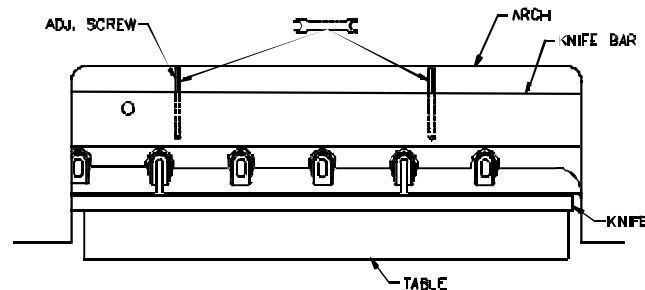

Figure 16
3. Back off the knife adjusting screws on the top of the knife bar, (Figure 16), as far as they will go (counter-clockwise). A new knife will cut deeper than a knife that has been ground several times. If the adjusters are not backed off, damage can result to the new knife and/or the cutting stick.
2. Check to make sure the paper deflector is locked down, see Knife Removal, step 2 above. Also check that the knife adjusters have been backed out, (Figure 16 on page 43).